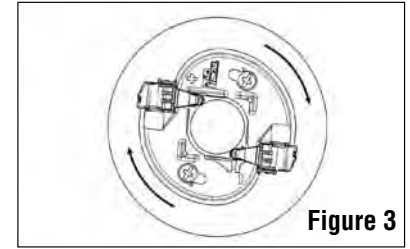

Figure 3
- Insert holder/array assembly over screws through keyways (Figure 3) and rotate holder clockwise (Except 50-2234C).